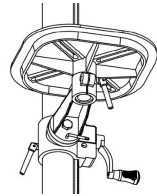

Fig. 11
3. Tilt the table by loosening the bevel table locking screw, removing the alignment pin and tilting to the required angle (Fig. 11).